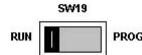

Figure A.9: Nios II Development Board JTAG Switch Configuration
14. On the Nios II development board, make sure the **RUN/PROG switch** (SW19), beside the LCD panel, is in the **RUN** position. Figure A.9 illustrates the correct configuration of the JTAG switches. Also make sure that SW[16] is "up" (the my_controller reset switch).